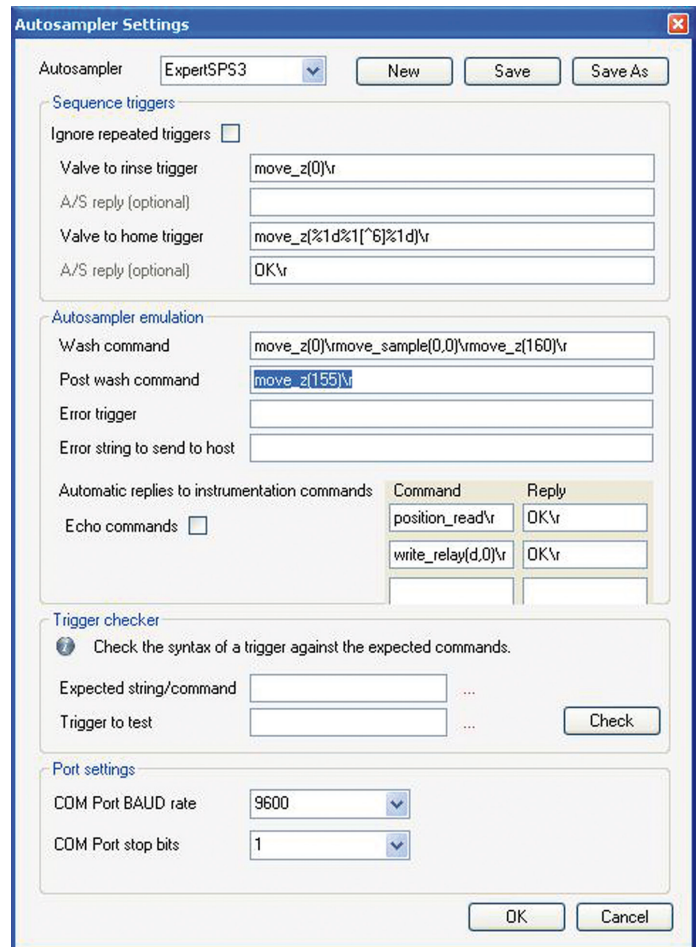

Figure 3: Niagara Plus-CM autosampler settings page.
- In combination with this wash time we have added the Post Wash command allowing the autosampler probe to be sent to any position once the wash time has concluded. This allows for the autosampler probe to be sent to a position ready for the next analysis, thereby eliminating most of the autosampler move time and further increasing throughput. Figure 3 shows the Autosampler Settings, including the “Post wash command”.